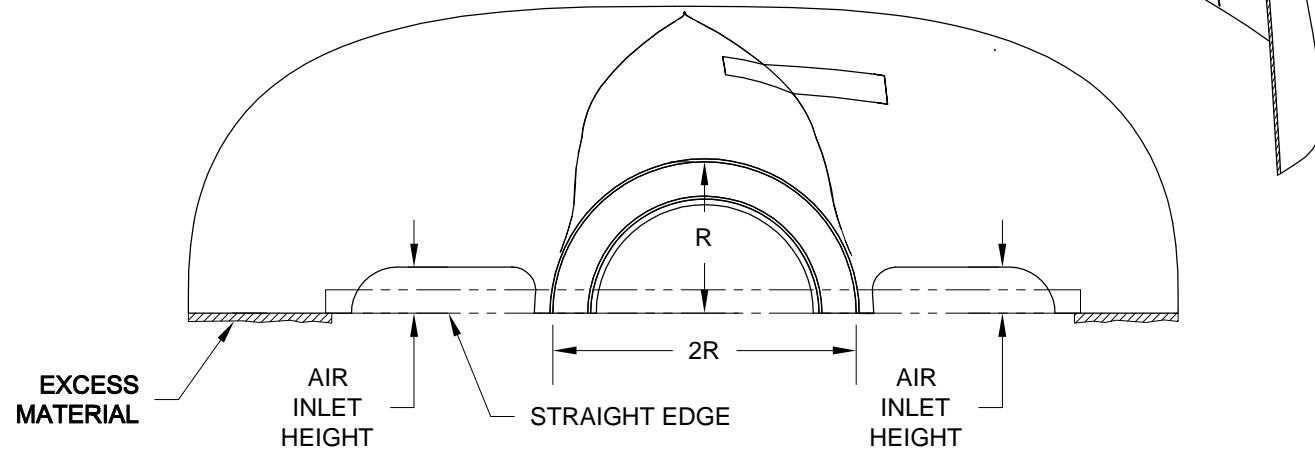

FIGURE 1: TRIMMING THE TOP COVL
Step 1: Lay a straight edge across the spinner opening in the top cowl. Adjust the straight edge up and down until the width of the spinner opening is twice its height. Rotate the straight edge until the outboard air inlet heights match. When both of these criteria are met, mark a trim line across all forward portions of the top cowl. See Figure 1.
Step 4: Using the trim lines marked out in Step 1 and Step 3, trim the excess material away from both cowls near the outboard side of the air inlets **just enough** to allow the top and bottom cowl halves to be slipped together. **Do not trim** the excess material along **the sides** of the cowls (shown as hatched areas in Figure 1 and Figure 2) at this time.